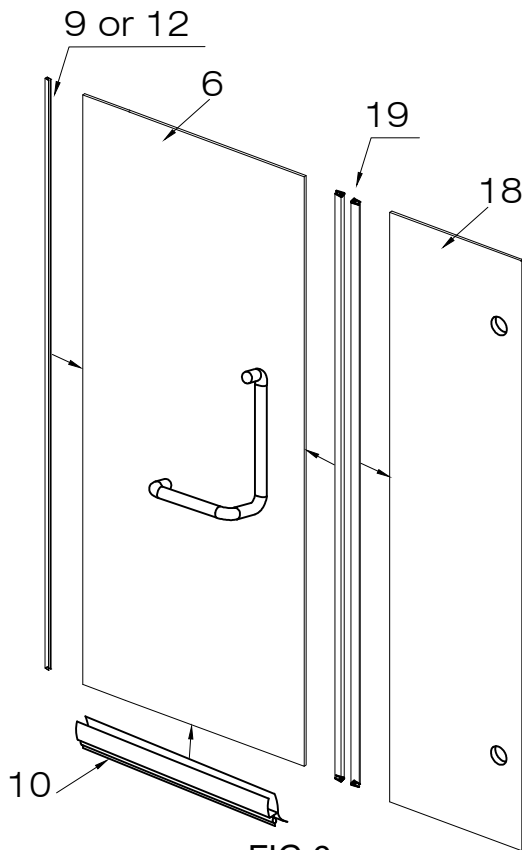

FIG.9
1. Install the door side seal strip (#12) to the door when the door edge towards the wall is away from the turning hinge base (#1). If maximum length of the shower enclosure is required and the door edge is within rubbing distance of the glass support install the side seal strip without bump (#9). [SEE FIG. 9]